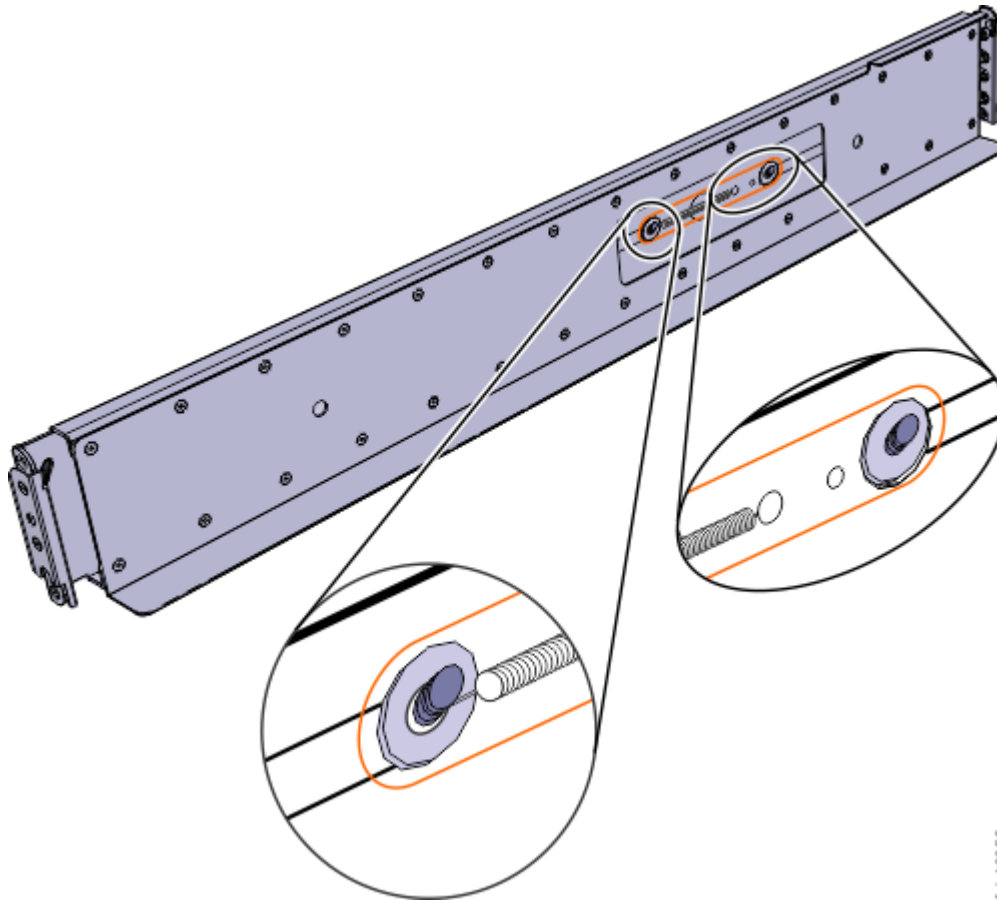

Figure 36. Installing the rail spring
- b) Push one looped end of a spring over one stud on the inside of the rail. (See Figure 36 on page 32.)